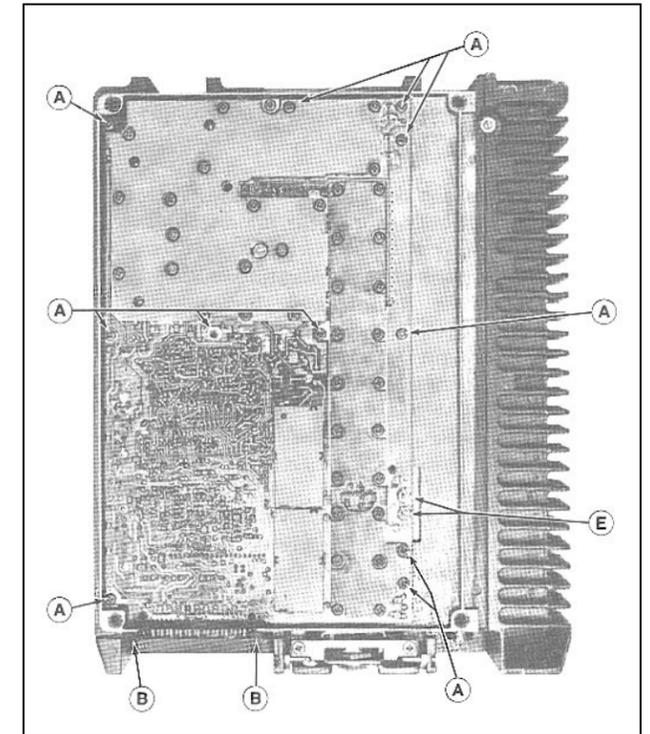
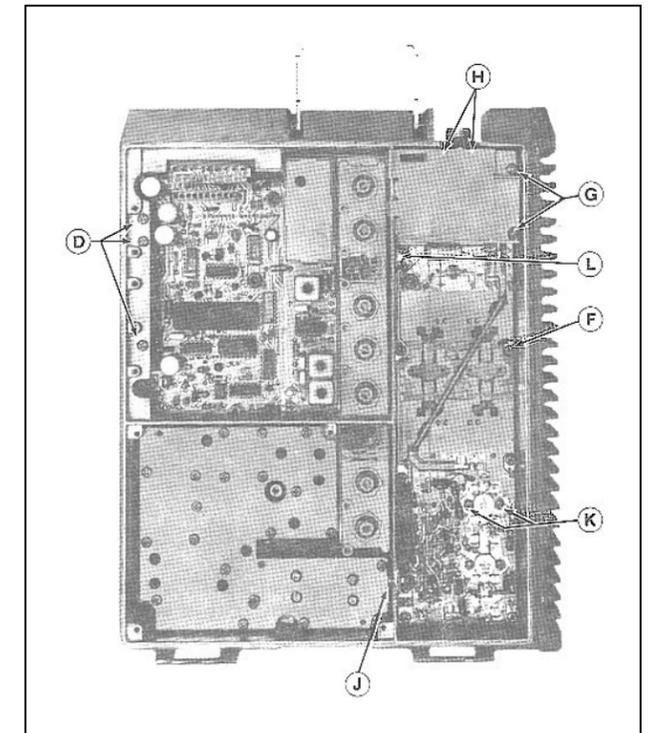

Figure 1 - Disassembly - Bottom View
Figure 2 - Disassembly - Top View
2. Remove the eleven retaining screws at (A) (Figure 1) securing the circuit board to the main frame.
3. Remove two retaining screws (B) securing systems connector J601 to front casting.
4. Unsolder the two feed through capacitor terminals (E) on printed wire pattern.
5. Turn over the radio and remove the three retaining screws (D) (Figure 2) securing the audio bridge amplifier, U601 and U602, and the 5 and 9 volt regulators U702 and Q705 to the side of chassis.